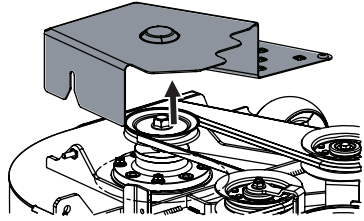

Figure 49
3. Remove the belt covers from the deck (Figure 49).